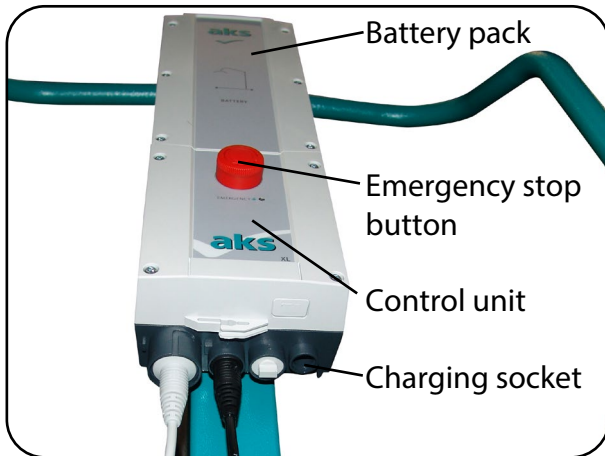
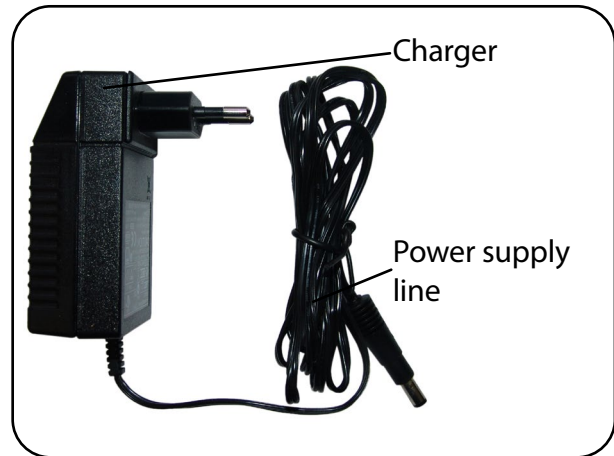

Fig. 8.7.04 – Control unit with charging socket
Fig. 8.7.05 – Charger with power supply line
The battery pack can only be charged using the supplied charger (Fig. 8.7.05) directly on the control unit or using the wall charging station available as an accessory (see chapter on **Accessories/combinations**). The charging socket is located on the underside of the control unit (Fig. 8.7.04).
Only plug the charger into the mains socket in the suspended position (Fig. 8.7.05). This prevents kinks from developing in the power line.
2. Insert the power supply line (Fig. 8.7.05) into the charging socket of the control unit (Fig. 8.7.04).
3. Plug the charger (Fig. 8.7.05) into a mains socket; connection specifications: see chapter on Technical data, section **Electrical data**.